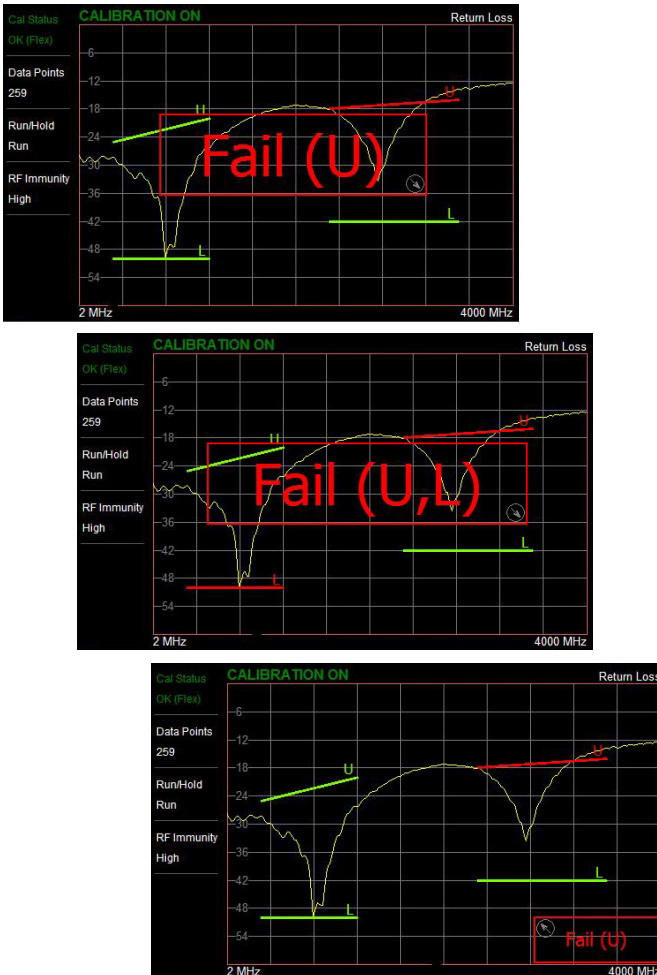

Figure 3-28. Pass/Fail Message Turned On
When set to On, a **Pass** or **Fail** message is displayed. Fail is displayed when the trace crosses or touches a limit line, as illustrated in Figure 3-28. Note that Upper(U) or Lower (L) or both (U, L) are displayed. To change the size and location of the Pass/Fail message, tap the small circled arrow in the lower-right corner of the large format message box. The circled arrow is in the upper-left corner when the message is in small format.